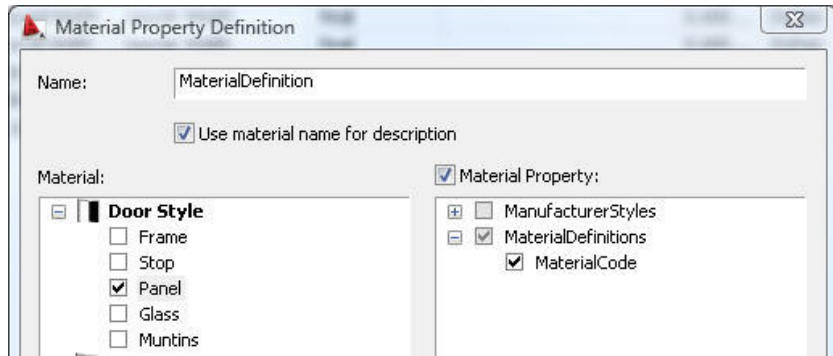

Figure 20. Linking the Material Property to the Material Code property of the Material Definition itself.
- Now that there is a property set definition assigned to material definitions the “Material Property” option is available. Place a check mark in that box, and select the “MaterialCode” property, as shown in Figure 20. This will cause the property attached to the material definition to be reflected in the door schedule whenever that material is assigned to an object in the schedule.